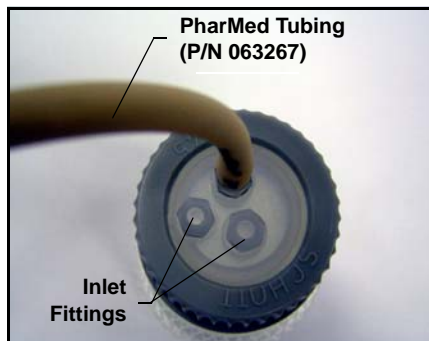

Figure 4. Ballast Reservoir Cap
2. Push one end of the PharMed tubing onto the barbed fitting on the ballast reservoir cap (see Figure 4).
- a. Remove the plug from one of the inlet fittings on the reservoir cap (see Figure 4).